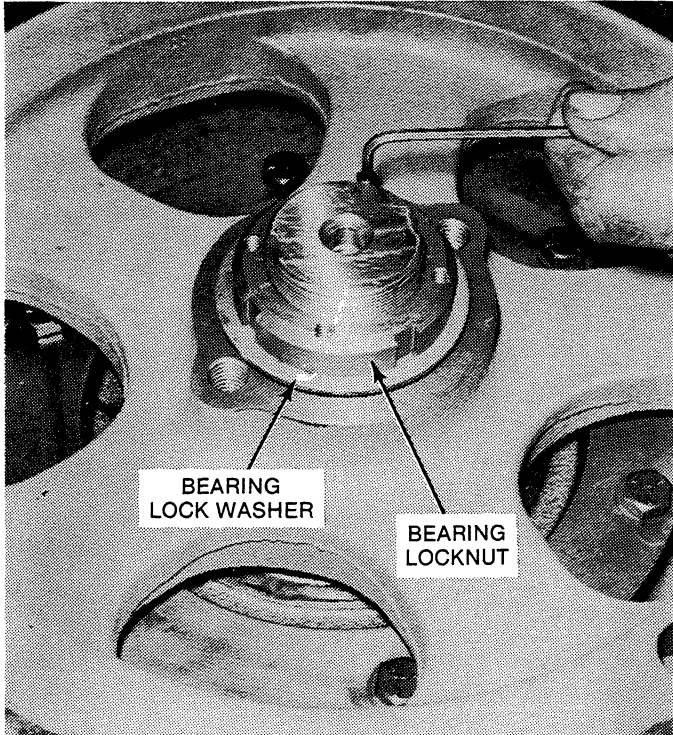

Figure 6-26. Removing or Installing Dog-Point Screws on Bearing Locknut.
9. Turn the unit over and remove dog-point setscrew (Figure 12-2, 45) from the bearing locknut (41) on the forward shaft (44). See Figure 6-26.